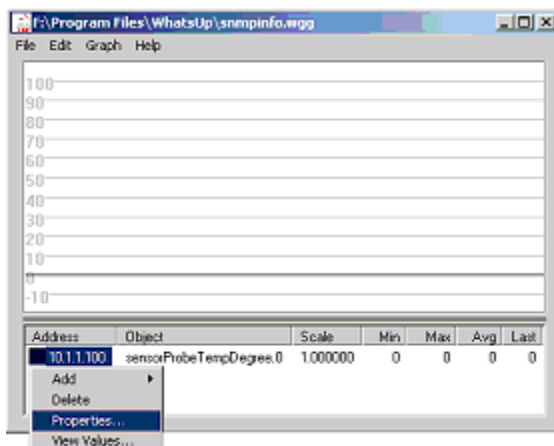

Figure 6 SNMP Graph Utility
1.2 Select Monitor to open SNMP Graph (see Figure 6).
2.1 Right-click on the IP address column of the desired SNMP variable as show in Figure 6.
3.1 From the Graph menu items of SNMP Graph utility (Figure 6), select Properties to open Graph Option dialog box shown in Figure 8.